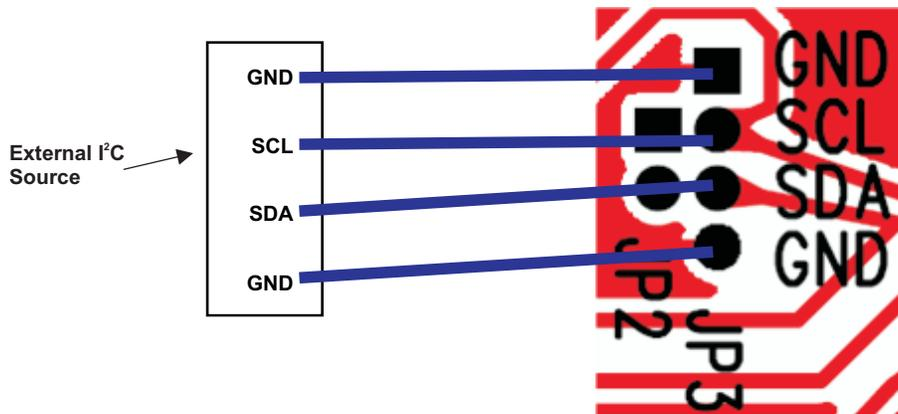

Figure 6. Connect I²C Controls to JP3
1. Install shunts in jumpers JP4. Remove shunts in JP2 and JP3 and connect I²C controls to JP3 as shown in Figure 6.